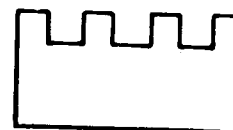

Fig. 3
2. For very wide grooves, start by cutting several small grooves to make the process easier (Fig. 3).
5. The shape of the tool used depends on the work to be done (Figs. 3 and 6).